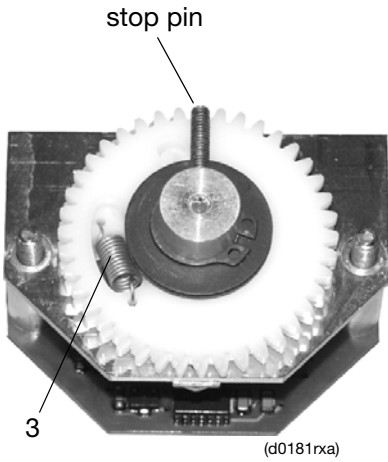

Fig. 43: Position sensor
- loosen both fastening screws (1) of position sensor (fig. 43 + 44) and take the sensor out
- set the stop pin to the center position, as shown in figure 43.